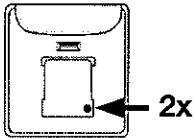

Fig. 2
2. Using a paper clip or a similar item, press and release the programming button located on the back side of the new remote twice in rapid succession (two taps) The LED on the remote will flash alternatively amber and green. (Fig. 2)